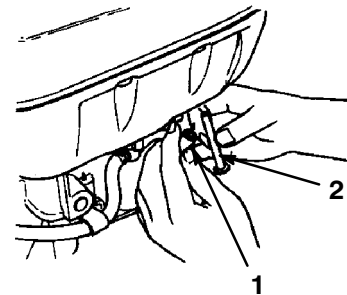

Figure 24
6. Remove the fuel tube on the fuel tank by loosening the tube clamp (Fig. 24).
7. Remove the fuel filter from the fuel tank (Fig. 24).